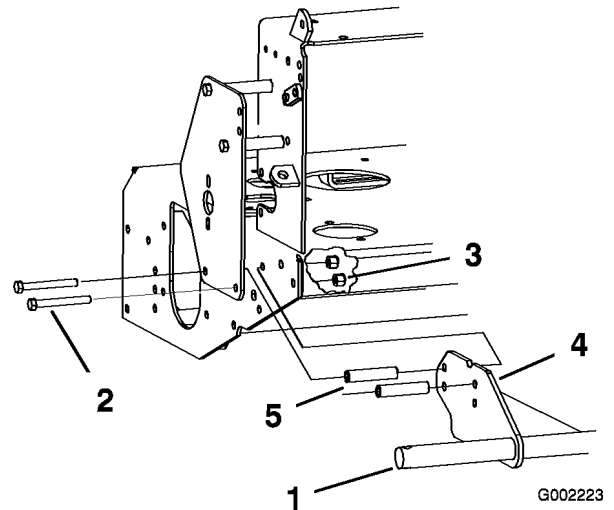
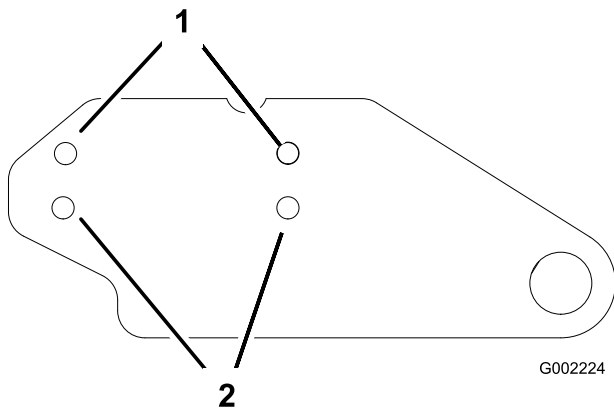
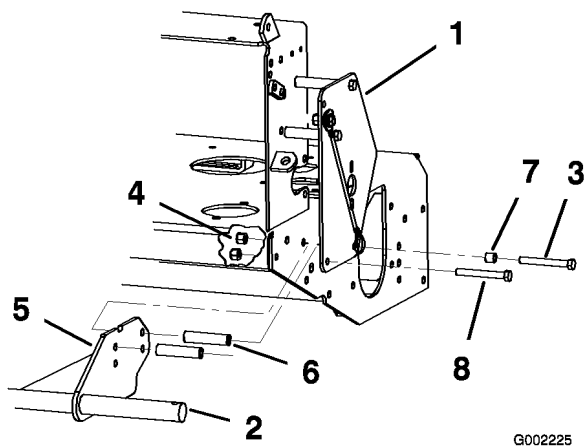
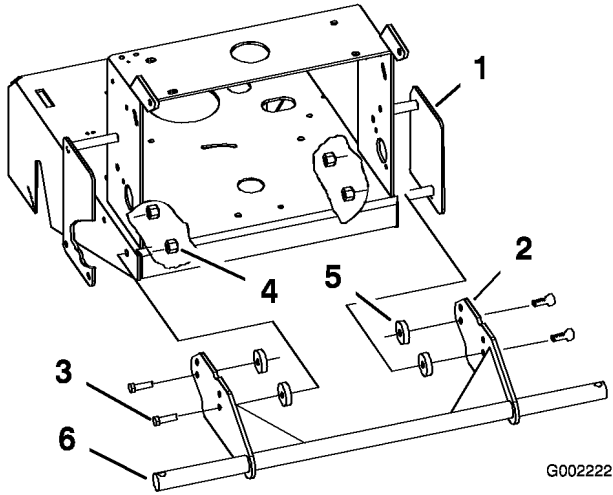

Figure 3
Figure 4
Figure 5
Figure 6
3. Remove the 4 bolts, spacers, and nuts securing the bottom of the two linkage guards on both sides of the frame (2 bolts and nuts on each side and spacers on the right side) (Figure 3). Save all 4 of the bolts and discard the locknuts.
4. Insert the axle mounting brackets between the linkage guards and the frame (Figure 3).
5. Insert the new long spacers (2-3/4 inches) between the axle mounting brackets and the frame on both sides, lining up the holes (Figure 3).
6. Install the axle to left side of the machine using 2 bolts previously removed and 2 locknuts (3/8 inch) in the top holes in the axle (Figure 3 and Figure 4).
7. Using the upper rear hole, install the axle to right side of the machine using 1 previously removed bolt (3/8 x 4 inches), 1 new long spacer (2-3/4 inches), and 1 locknut (3/8 inch) (Figure 4 and Figure 5).
8. Using the upper front hole, install the axle to right side of the machine using 1 bolt (3/8 x 4-1/2 inch) previously removed, 1 new long spacer (2-3/4 inches), 1 short spacer previously removed on the outside of the guard, and 1 locknut (3/8 inch) (Figure 4 and Figure 5).
3. Insert the axle mounting brackets between the pulley guards and the frame (Figure 6).
4. Insert the flat spacers between the axle mounting brackets and the frame, lining up the holes (Figure 6).
and locknuts (3/8 inch) supplied with the sulky, secure the axle and the spacers as illustrated in Figure 4 and Figure 6.